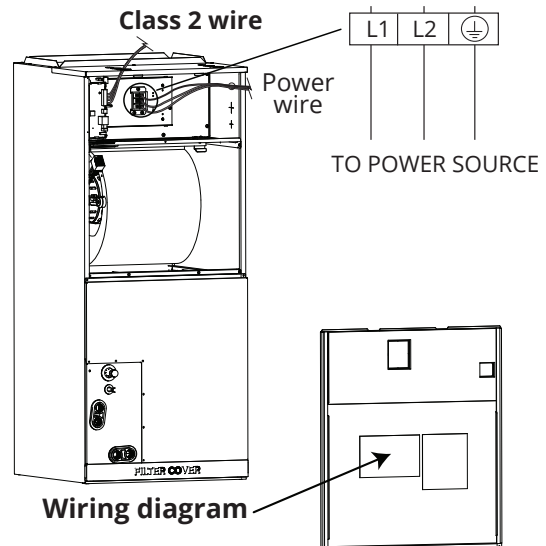

Fig. 7.2
4. Properly connect the wiring by securely fastening the u-lug or ring terminal of each wire to the corresponding terminal on the terminal block. Refer to the unit serial number and the wiring diagram located on the electric control box cover (Fig. 7.2). **NOTE: For more detailed illustrations of the different variations of wiring connections, depending on your specific application, please refer to the wiring diagrams on pages 47-50.**